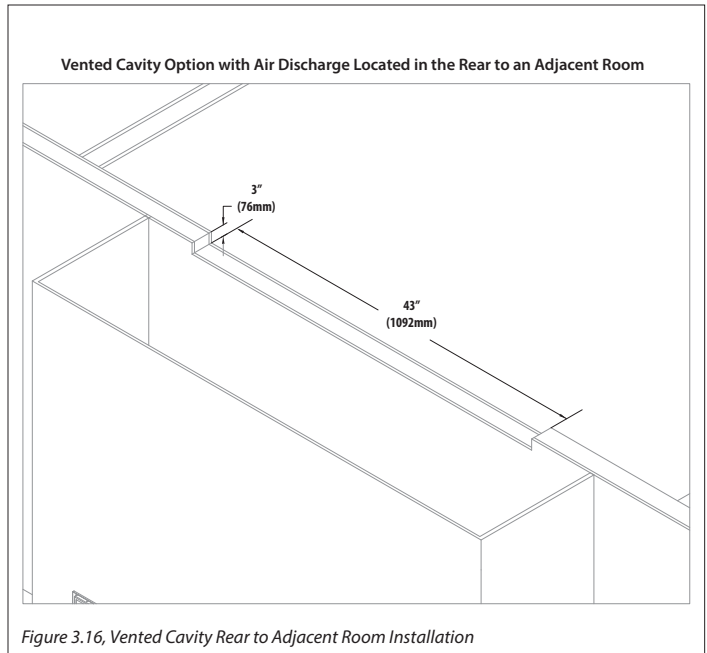
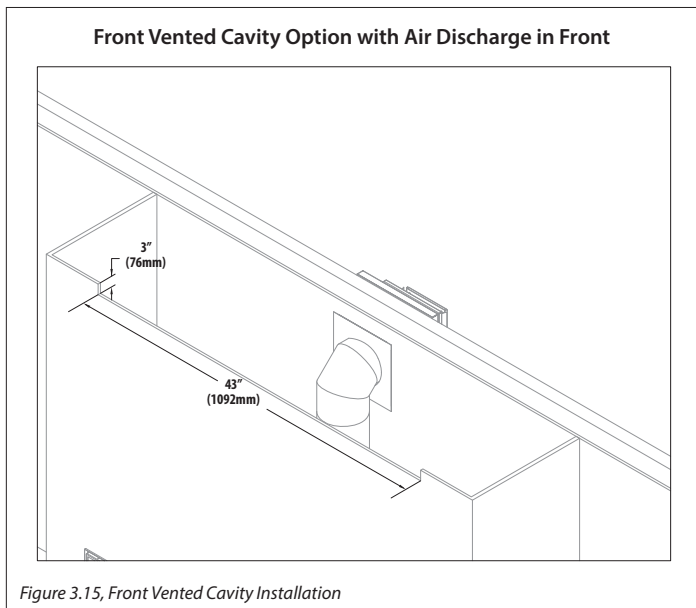

Figure 3.16, Vented Cavity Rear to Adjacent Room Installation
Figure 3.15, Front Vented Cavity Installation
- Figure 3.15 shows the minimum required dimensions for the vent cavity air discharge opening. This single 3" x 43" air discharge opening can be in either the front of the fireplace chamber, so hot air exits into the room the fireplace is installed, or the discharge opening can be in an adjacent room where the discharge opening would be located on the rear of the fireplace chamber. See Figure 3.16.